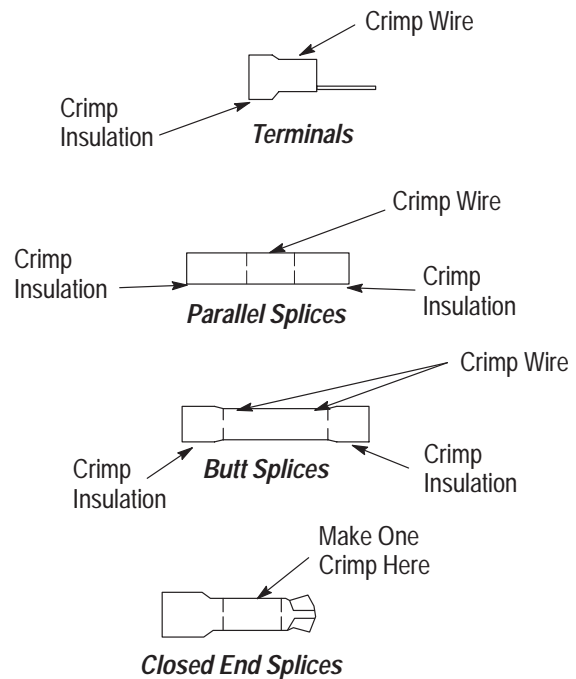

Figure 5
5. Close the handles and crimp the terminals/splices as shown in Figure 5.